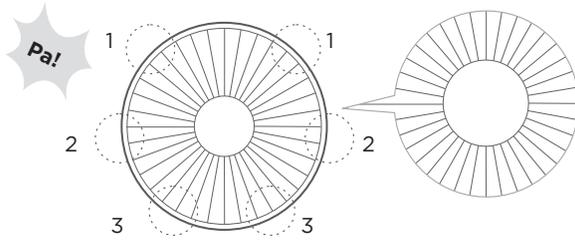

Fig.9
- 5 Press the grill in both hands in sequence, and when it is installed, you will hear a click. (Fig. 9)